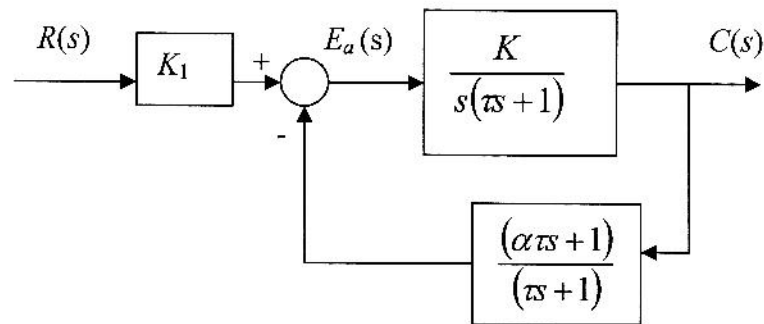

Fig.2
- c) Find the actuating signal  $E_a(s)$  for the system shown in Fig. 2. Find the position, velocity and acceleration constants.